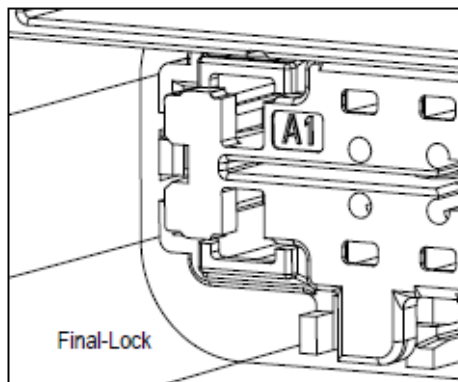

Figure 5
- Make sure TPA is in the "pre-lock" position in the female housing. See figures 5 and 6.
- Once all the terminals are inserted in the correct position, then press the TPA into the "final lock" position as shown in figure 5. If the TPA will not move into the final-lock position, verify that all terminals are fully seated.